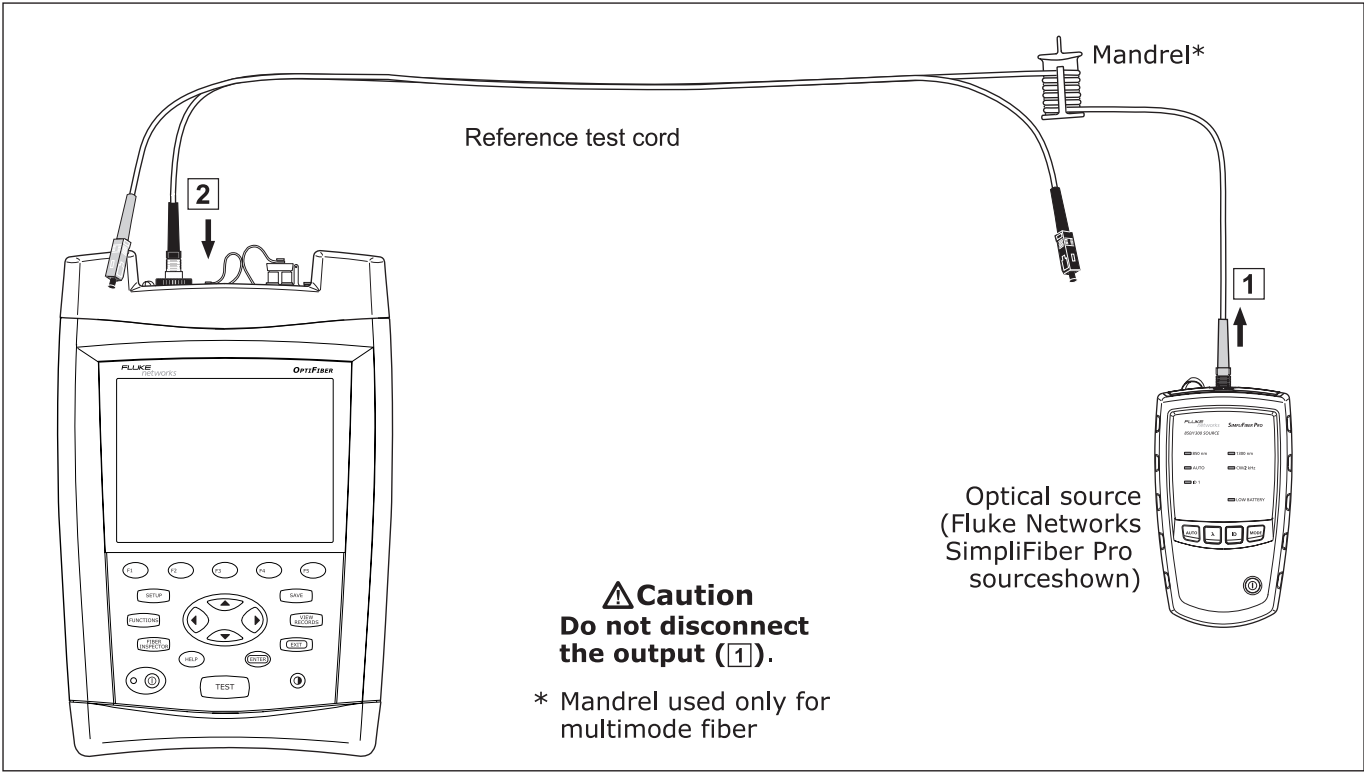

Figure 7-12. Far End Source Mode Reference Connections (1 Jumper Method)
- 5 Make the connections shown on the **SET REFERENCE** screen and in Figure 7-12.